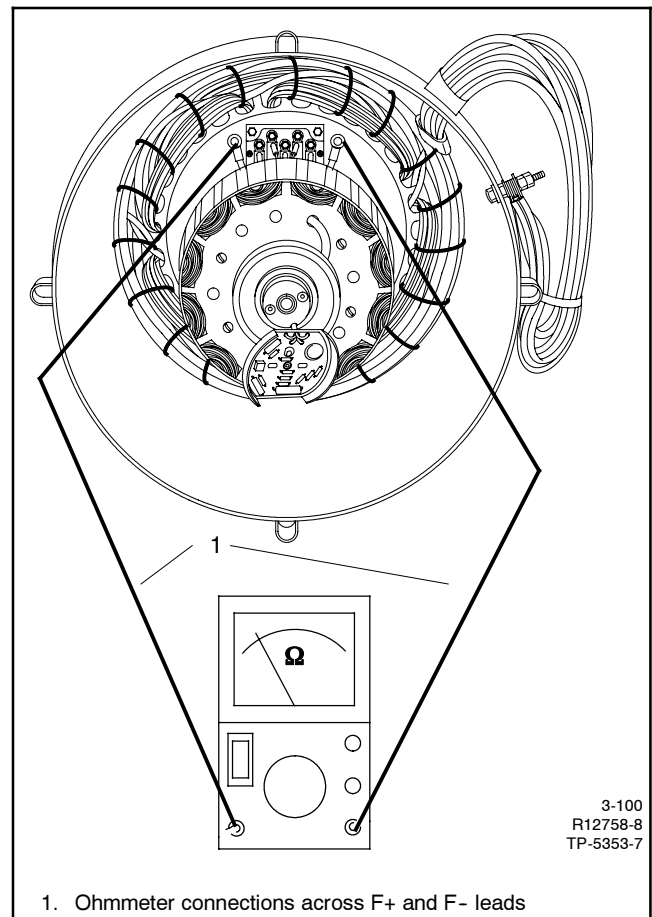

Figure 3-15 Field Continuity Check
2. With an ohmmeter, check for continuity across the F+ and F- leads. See Figure 3-15. Resistance readings are shown in Section 1.4, Specifications, Electrical Values.